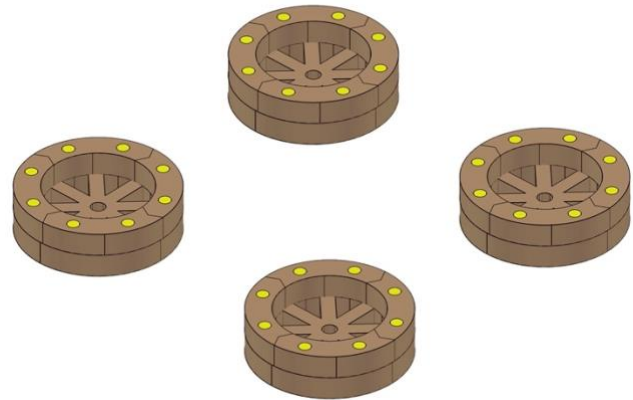

Fig. 48
- *Fig. 48* shows the completed process (make four parts).